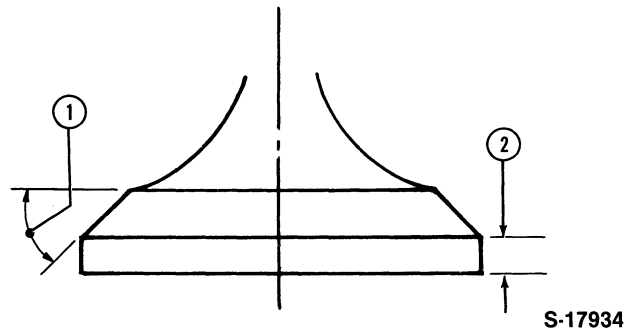

Figure 25
3. If inspection indicates that the valve may be re-used, the valve should be ground as shown, Figure 25.